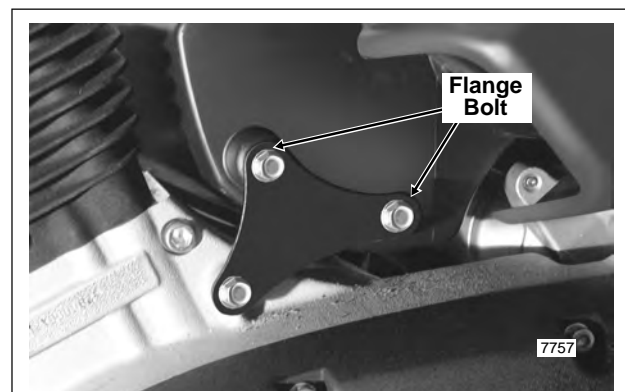

Figure 4-11. Remove Air Box From Bracket
1. Release five latches around perimeter of air box cover. See Figure 4-11.